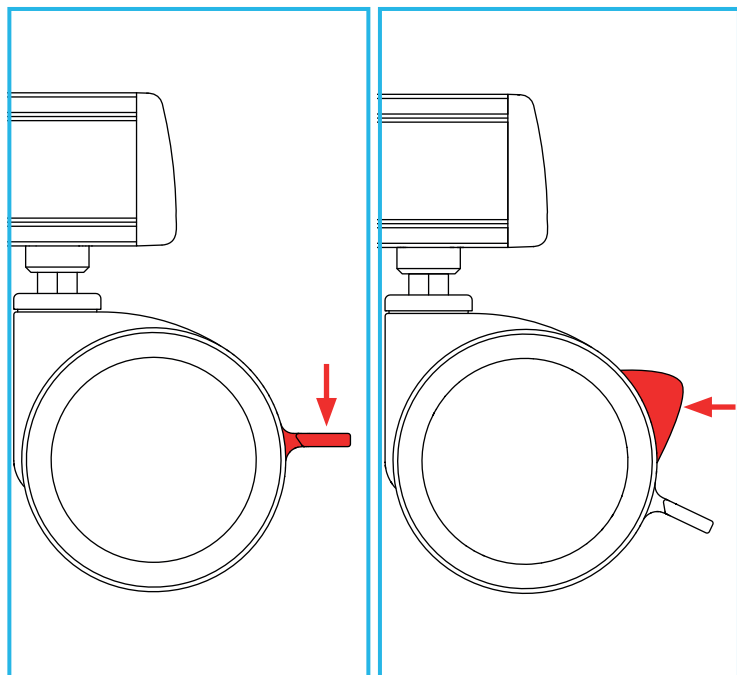

Fig 1: Castor Unlocked Fig 2: Castor Locked
1. To lock the castor brake, press down on the castor tab (Fig 1).